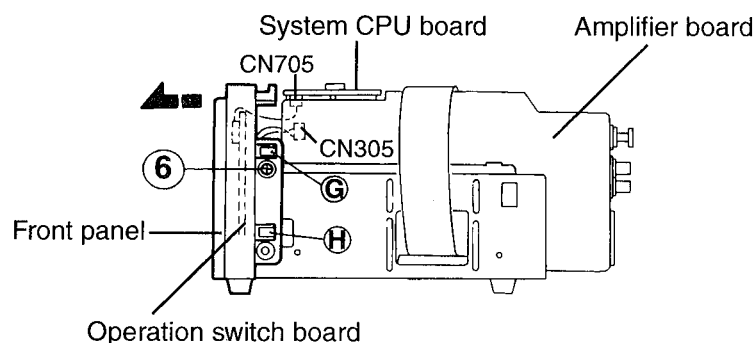

Fig. 8
6. From the connector CN705 on the system CPU board, disconnect the card wires outgoing from the operation switch board. (See Fig. 8)
8. From the connector CN305 on the amplifier board, disconnect the wire outgoing from W391 on the lamp board. (See Fig. 8)